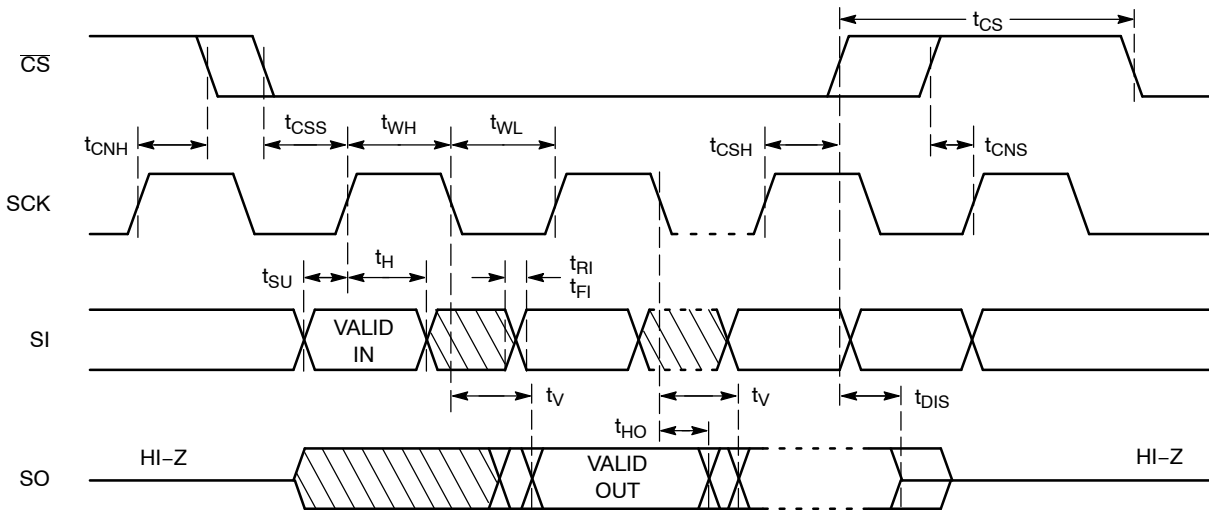

Figure 2. Synchronous Data Timing
7. **All Chip Select (CS) timing parameters are defined relative to the positive clock edge (Figure 2). t_{CSS} timing specification is valid for die revision C and higher. The die revision C is identified by letter "C" or a dedicated marking code on top of the package. For previous product revision (Rev. B) the t_{CSS} is defined relative to the negative clock edge.**
After a high to low transition on the \overline{CS} input pin, the CAT25080/160 will accept any one of the six instruction op-codes listed in Table 9 and will ignore all other possible 8-bit combinations. The communication protocol follows the timing from Figure 2.